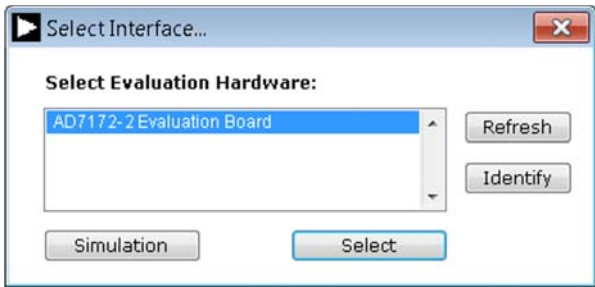
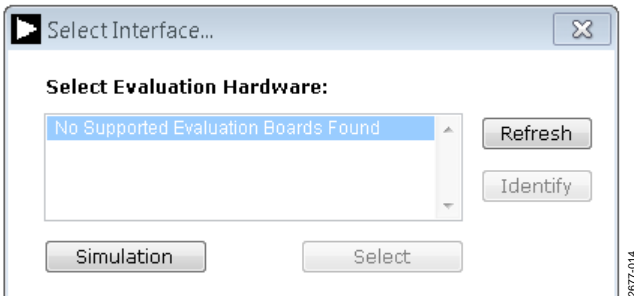
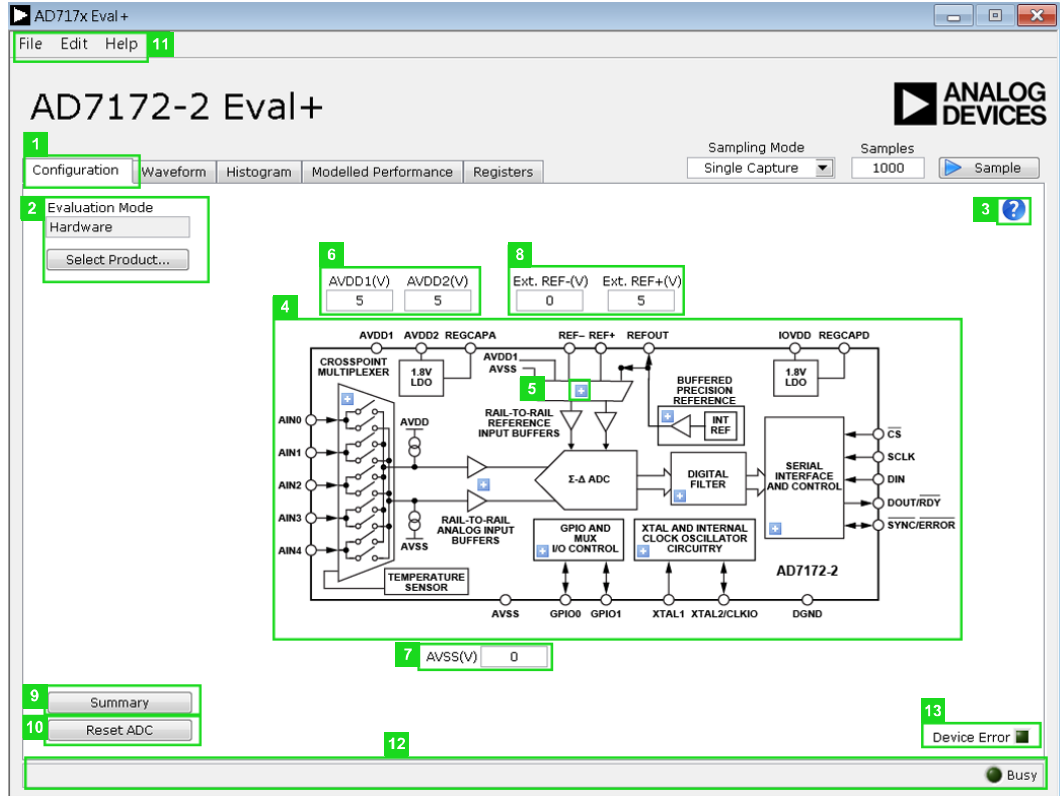
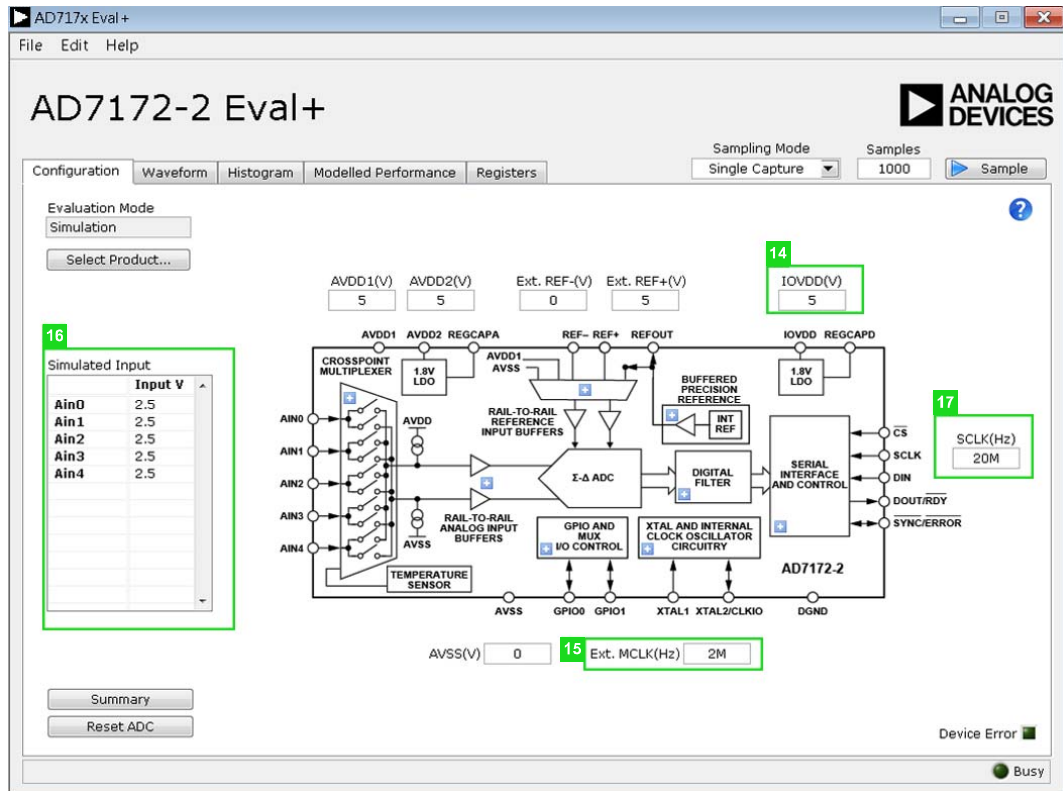

Figure 13. AD7172-2 Evaluation Board Selection
Figure 14. Evaluation Board Selection, No Board Connected
Figure 16. Configuration Tab of the AD717x Eval+ Software in Hardware Mode
Figure 17. Configuration Tab of the AD717x Eval+ Software in Simulation Mode
2. The dialogue box in Figure 13 appears; select **AD7172-2 Evaluation Board** and click the **Select** button. The main window of the software box displays as shown in Figure 16.
3. If the EVAL-AD7172-2SDZ evaluation system is not connected to the USB port via the SDP-B board when the software is launched, the software displays the dialog box shown in Figure 14. Connect the evaluation board to the USB port of the PC; wait a few seconds, click **Refresh**, and the option shown in Figure 13 appears.
Figure 16 shows the **Configuration** (1) tab when **Hardware** mode is selected and Figure 17 shows the **Configuration** tab when **Simulation** mode is selected. The controls highlighted in Figure 17 are only available in **Simulation** mode.
The **Evaluation Mode** (2) pane displays the evaluation mode in use. To switch between modes, click the **Select Product...** button, and the dialog box shown in Figure 13 appears.
The text fields labeled 6, 7, and 14 in Figure 16 and Figure 17 are input fields that are used to take the supply voltage levels selected for the AD7172-2. Checks are performed to ensure that the power supply voltage levels entered are within the specified limits. These power supply voltage levels are also used for the modelled performance to calculate the power dissipation.